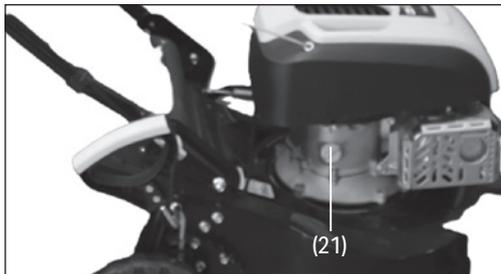
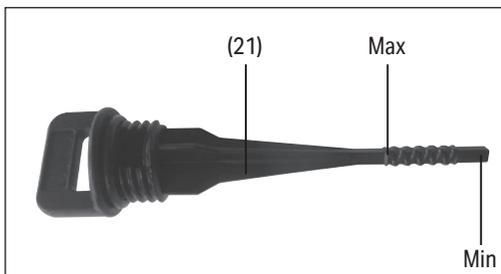

Fig.7
Fig.8
6.6 Checking and Topping Up the Engine Oil (Fig.7 - Fig.8)